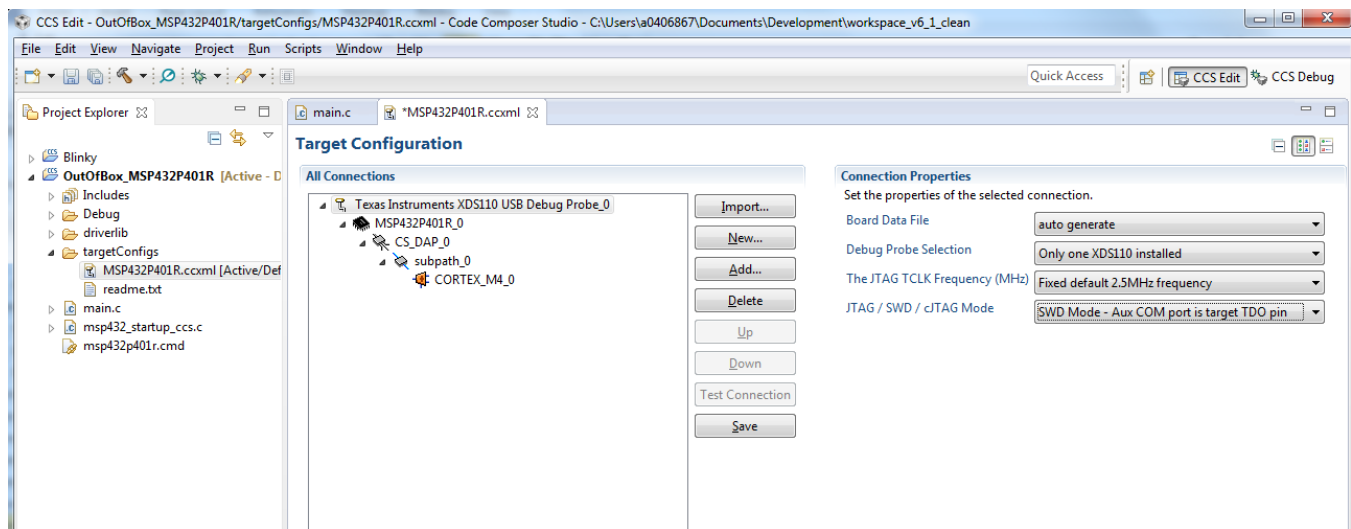

Figure 14. Connection Properties
3. Figure 14 shows the Connection Properties. In JTAG/SWD mode, select *SWD Mode – Aux COM port is target TDO pin*.